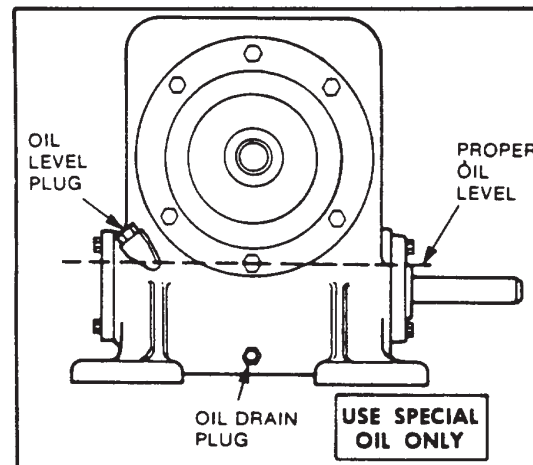

Figure 10-1 Gear Reducer
4. **OVERFILLING OR UNDERFILLING** – If a gear reducer is overfilled with oil, the energy used in churning the excessive oil can result in overheating. If the gear reducer is underfilled, the resultant friction can cause overheating. If underfilling occurs, fill the gear reducer to the oil level plug hole. See Figure 10-1.